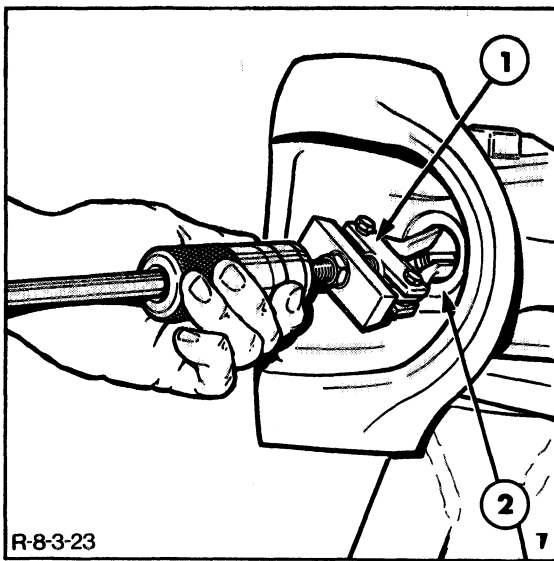
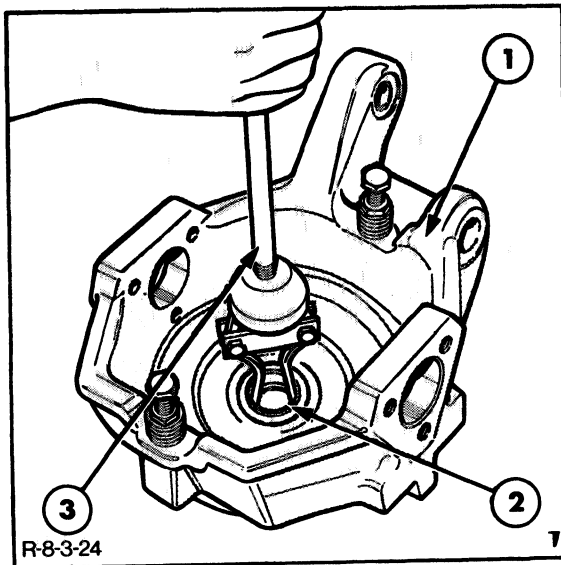

FIGURE 7-70
FIGURE 7-71
- 4. Remove the axle shaft oil seals from the axle center casing, Figure 7-70, and the swivel casing assembly, Figure 7-71.